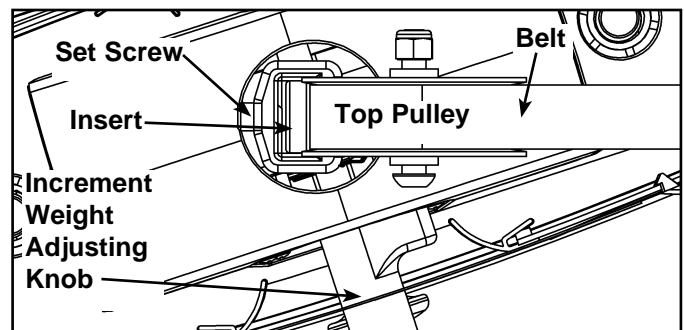

Figure 7
- B. Verify the belt clamp on the top weight is positioned properly with the top pulley. **NOTE:** The belt must have a straight path from the pulley to the belt clamp. See Figure 7. **NOTE:** Figure 7 shows the top view, looking from the top pulley down to the top plate.